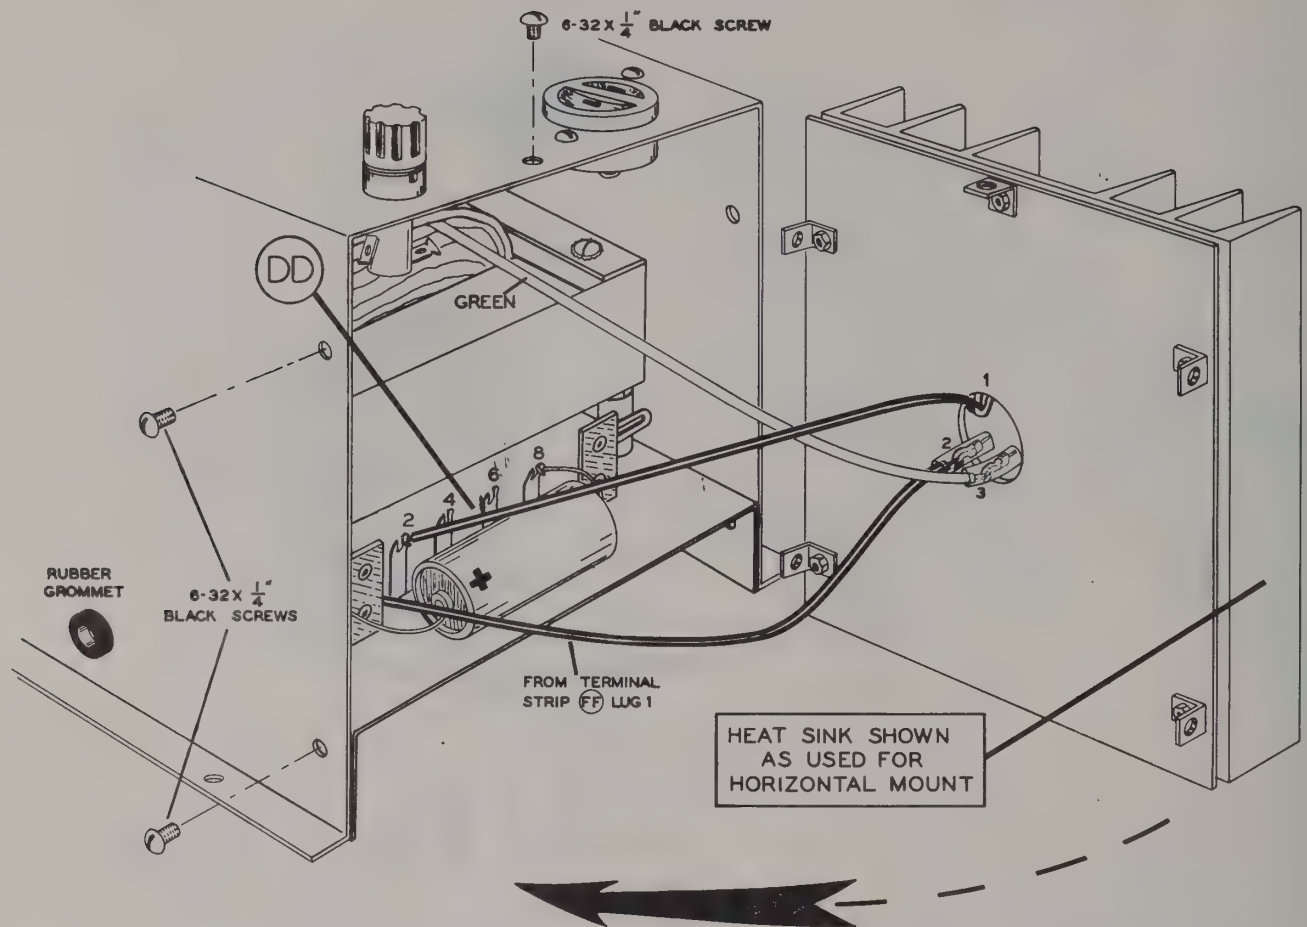

Figure 16
Refer to Figure 16 for the following steps.
- (✓) Repeat the two previous steps for the right heat sink assembly. See Figure 16.
- (✓) Place the 1/2" rubber grommet in the hole at the front of the chassis. It will turn freely in the hole when properly placed. See Figure 16.